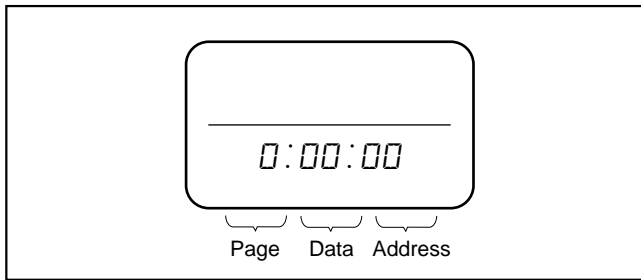

Fig. 5-2-1
- If it has been properly connected, the LCD on the adjusting remote commander will display as shown in Fig. 5-2-1.